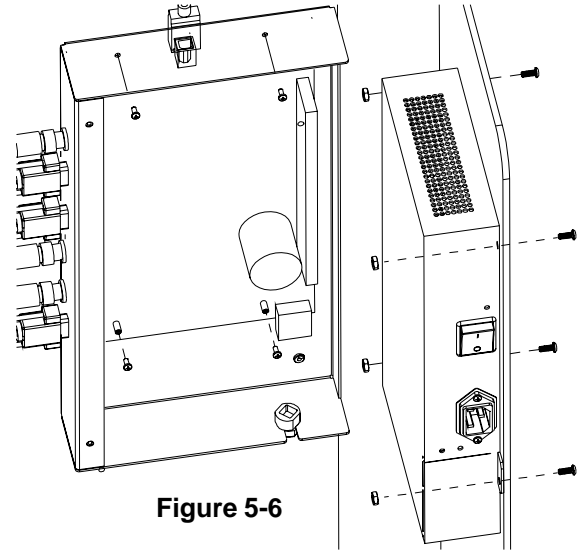

Figure 5-6
5. Remove the screws and nuts holding the Power Supply to the tower guard. (Figure 5-6)